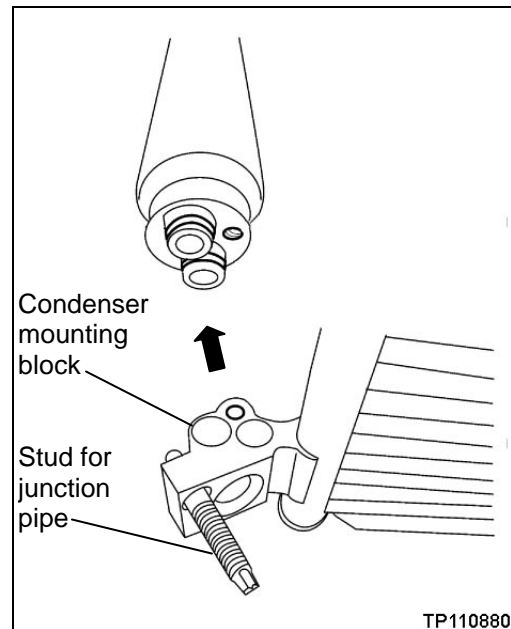

Figure 15
**NOTE:** The junction pipe is shown as removed in Figure 15. It does not need to be removed.